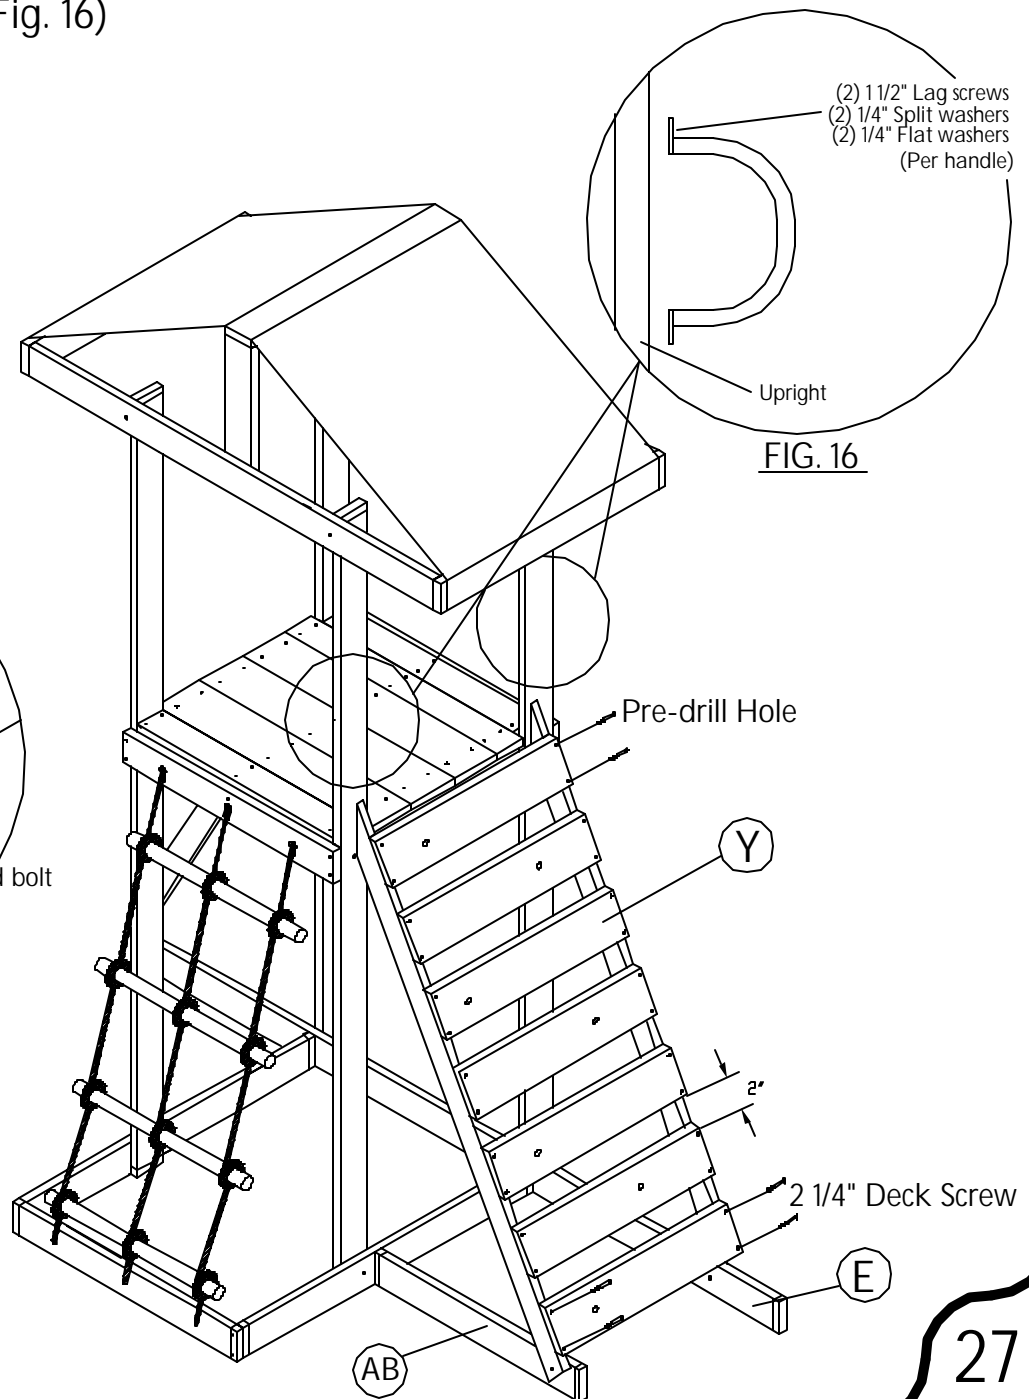

FIG. 16
Step 4: Attach the (2) yellow grab handles to the uprights above the rockwall as shown. (see Fig. 16)